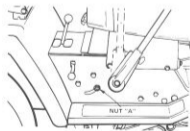

FIGURE 33
- Loosen Nut "A" on R.H. outside of Frame (Fig. 33).